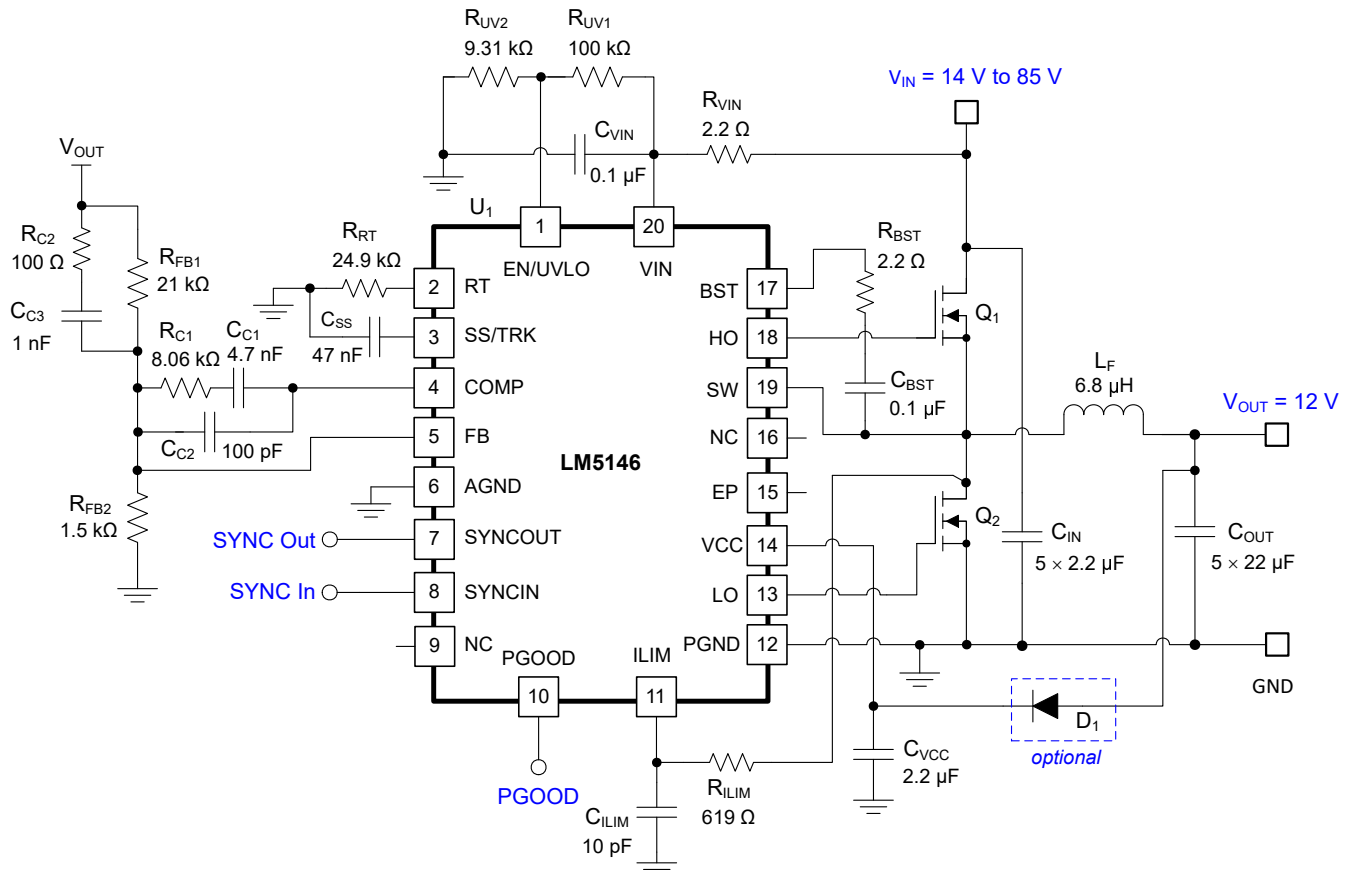

图 9-16. Application Circuit 2 With LM5146 48-V to 12-A Synchronous Buck Regulator at 400 kHz
图 9-16 shows the schematic diagram of a 400-kHz, 12-V output, 8-A synchronous buck regulator intended for 48-V telecom applications.
As shown in 图 9-16, a 2.2- Ω resistor in series with C_{BST} is used to slow the turn-on transition of the high-side MOSFET, reducing the spike amplitude and ringing of the SW node voltage and minimizing the possibility of C_{dv}/dt -induced shoot-through of the low-side MOSFET. If needed, place an RC snubber (for example, 2.2 Ω and 100 pF) close to the drain (SW node) and source (PGND) terminals of the low-side MOSFET to further attenuate any SW node voltage overshoot and/or ringing. Please refer to the application note Reduce Buck Converter EMI and Voltage Stress by Minimizing Inductive Parasitics for more detail.
3. Placing a 2- Ω to 10- Ω resistor in series with the boot capacitor, as shown in Figure 9-16, slows down the high-side MOSFET turn-on transition, serving to reduce the voltage ringing and peak amplitude at the SW node at the expense of increased MOSFET turnon power loss.